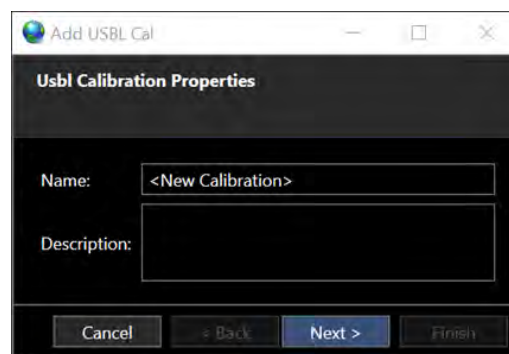

FIGURE 16-3 USBL CALIBRATION PLANNING WIZARD - CALIBRATION PROPERTIES
3. **USBL Calibration Properties** page (see Figure 16-3)